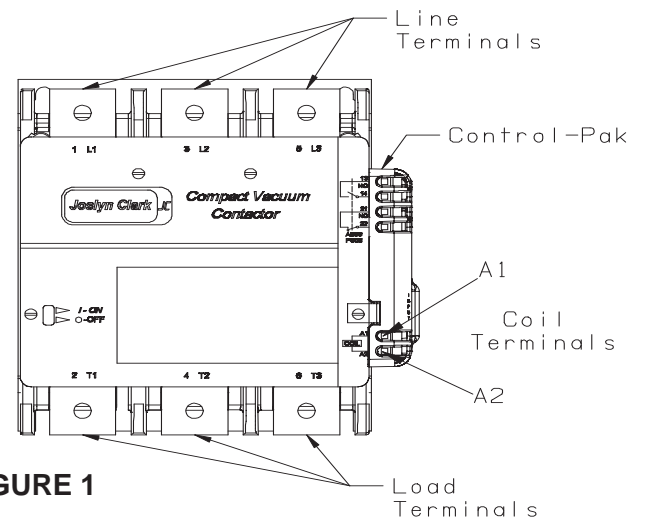
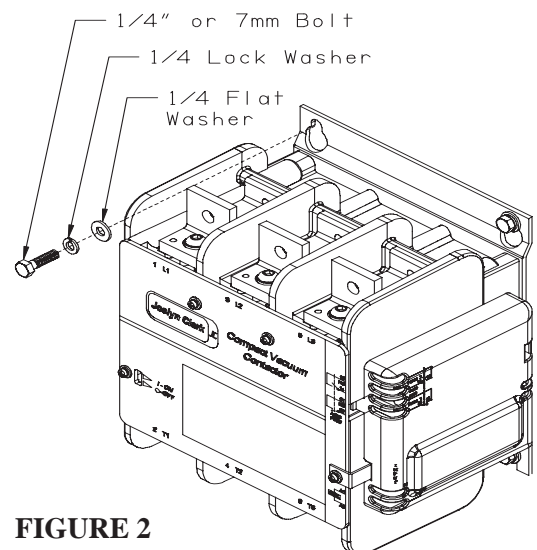

FIGURE 1
FIGURE 2
1. Figure 1 illustrates the field terminals for line and load terminations. Mount the contactor with the hardware specified in Figure 2, loosely install the top line side mounting hardware into the intended mounting surface. Locate the keyhole shaped holes into the base of the contactor over the mounting hardware to support the device while installing the load side of the lower mounting hardware. Tighten the torque mounting bolts to 50-75 inch-lbs.
3. Using 75°C wire copper cable, connect the line and load conductors to the main terminals (Refer Figure 1) and proper phase rotation, tighten the main terminal bolts to 15 to 20 foot lbs. torque.